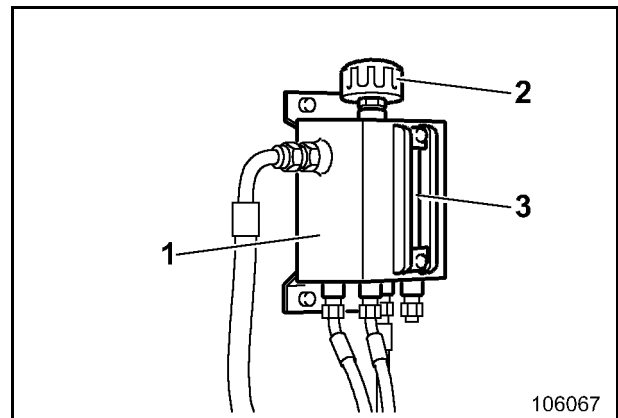

Fig. 3-104
The oil level in the pre-chambers is visually at the inspection glass (3, Fig. 3-104) in expansion reservoir (1).